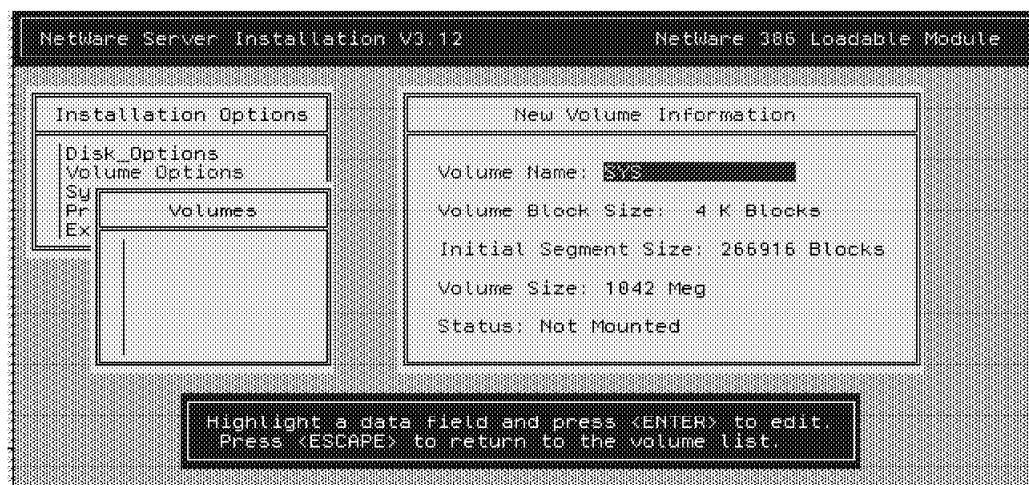

Figure 85. Creating a New Volume
26. Press the Insert key to create a volume. You will see a screen like the one in Figure 85.